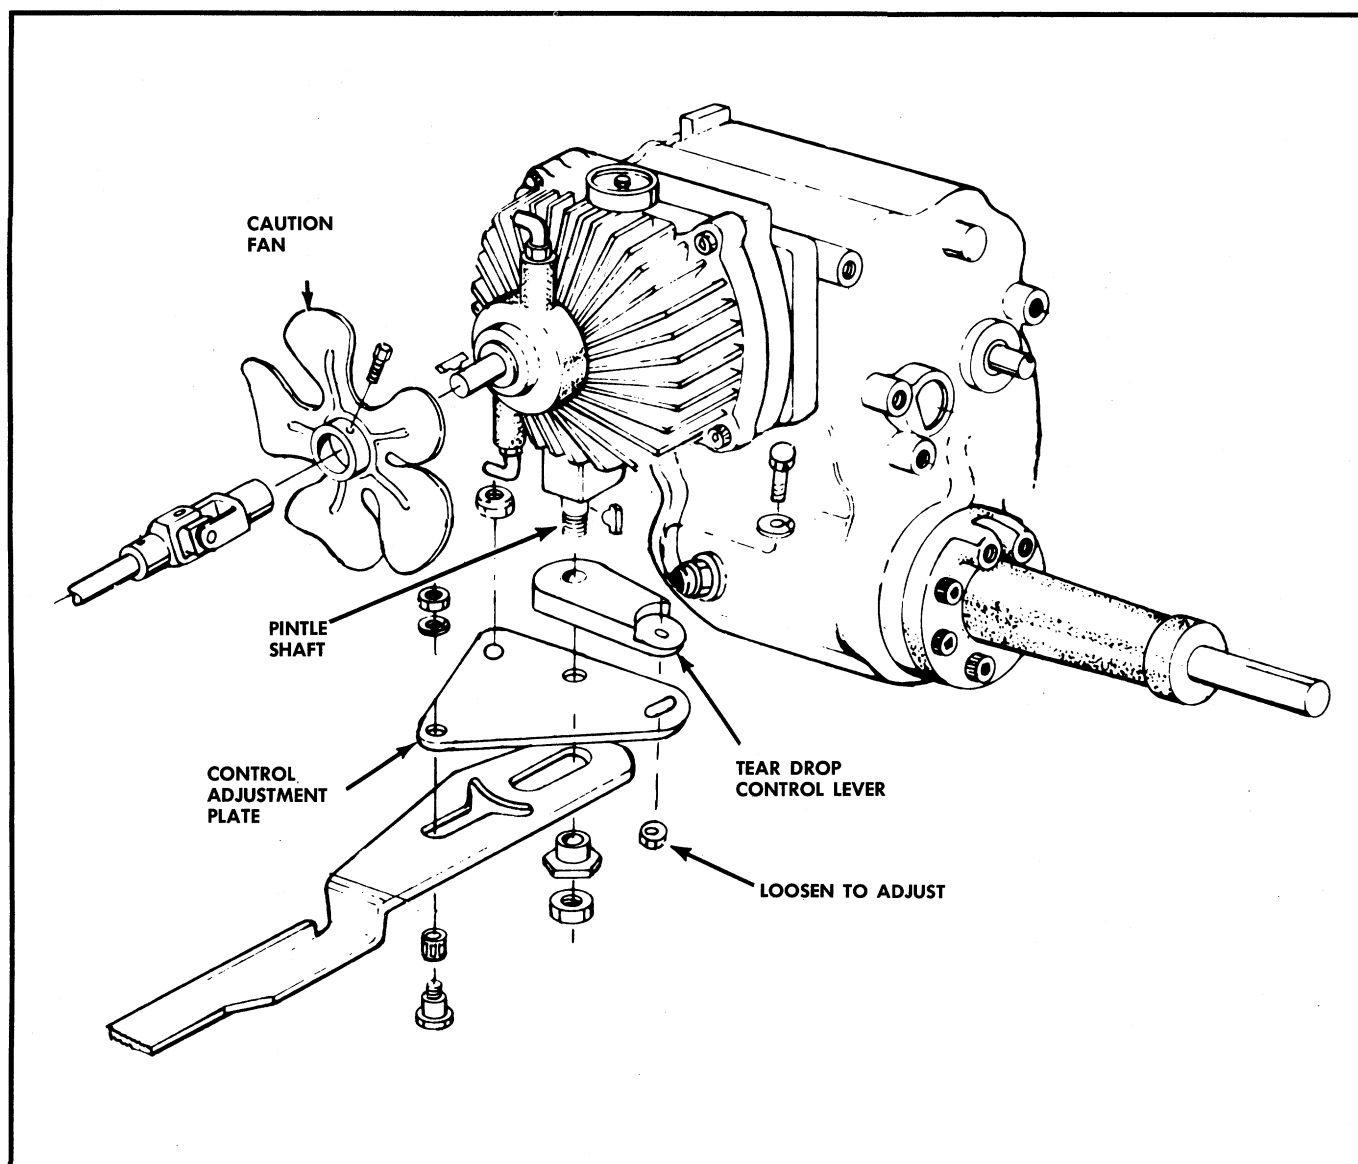

FIGURE 19. HYDROSTATIC LINKAGE ADJUSTMENT
3. Position the axle range lever into the low range. See Figure 10. Loosen the nut on the control adjustment plate enough to allow the tear drop control lever and the control adjustment plate to move independently of each other. See Figure 19.